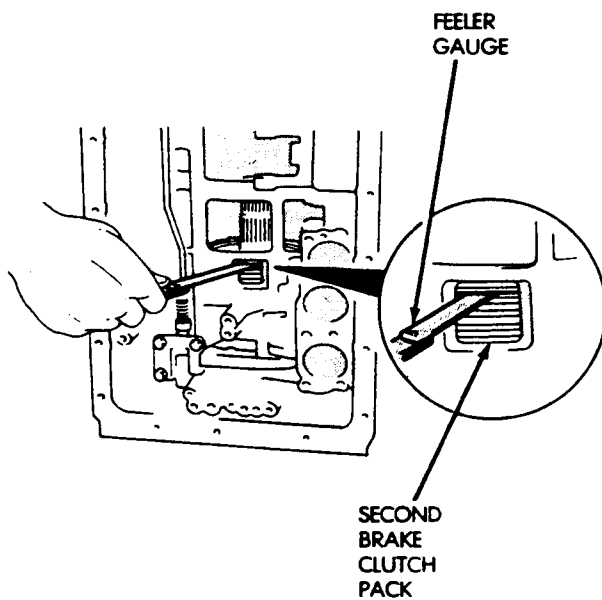

Fig. 39 Checking Second Brake Clutch Pack Clearance
(48) Measure second brake clutch pack clearance (Fig. 39). Clearance should be: .62 to 1.98 mm (.0244 to .0780 in) on six-cyl. transmissions and .89 to 2.15 mm (.0350